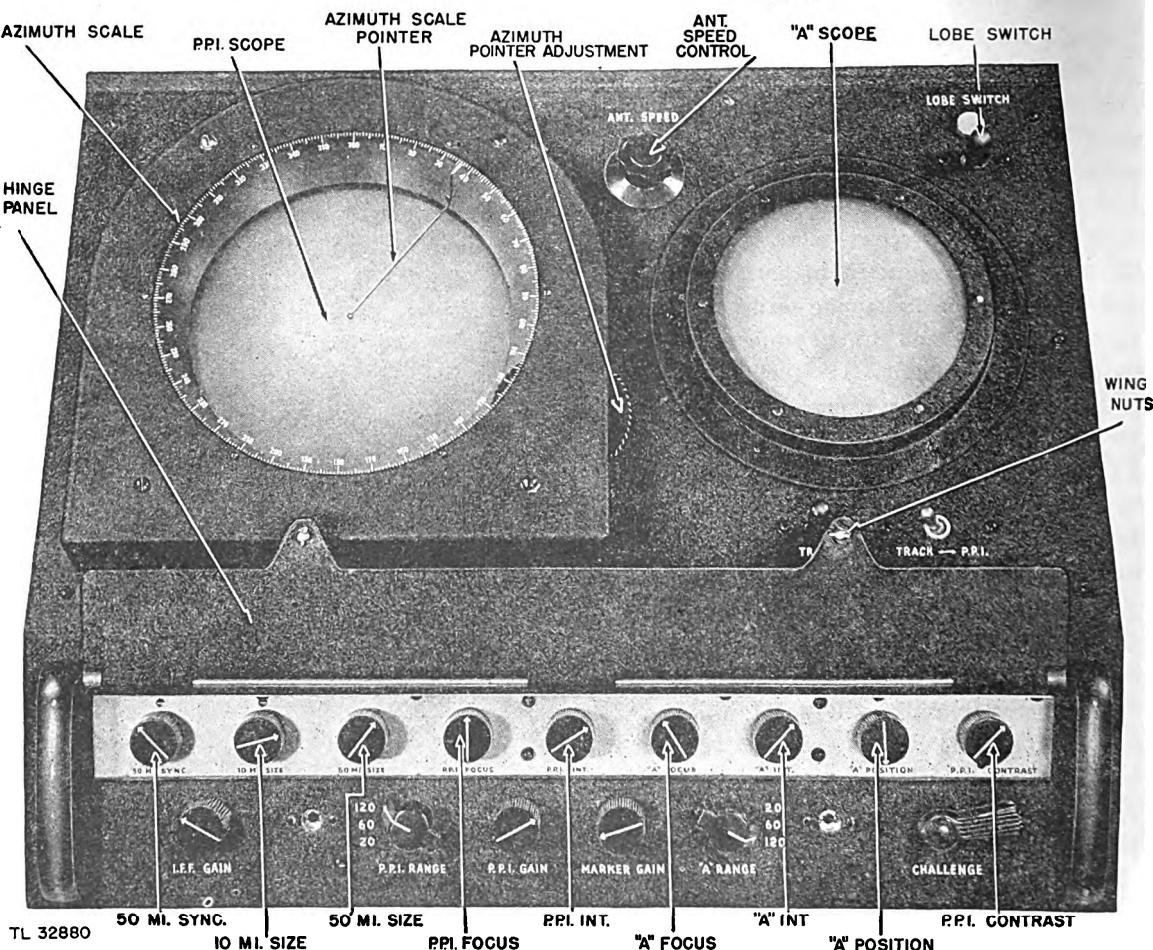

Figure 29. Indicator chassis, panel open.
**21. FUNCTION.** Radio Set AN/TPS-3 employs two indicating devices, an "A" scope, and a PPI scope (fig. 29). These cathode-ray tubes are used to indicate visually the range and azimuth of targets within 100 miles of the equipment. Although both scopes may be used to obtain range and azimuth, the "A" scope is used most effectively for range determination, while azimuth can most easily be determined on the PPI scope. The "A" scope may also be used as a monitoring or tuning device.
(a) Electron emission from the cathode is controlled by the potential difference between grid and cathode. Making the cathode of the "A" scope more or less negative by manual operation of the "A" INT. control (fig. 29), (potentiometer R58) increases or decreases the density of the electron stream with consequent increase or decrease in the intensity or brightness of the spot on the screen.
(2) FOCUSING. The beam of electrons streams through the electrostatic lens formed by the difference in potential between the grounded accelerating anode and the more negative focusing anode. The warping of the electrostatic flux lines between these two anodes, when correct, will form the electron stream into a narrow beam focused at a point on the screen. The lens curvature is controlled by the "A" FOCUS control, potentiometer R60 (fig. 29).
(1) INTENSITY. The brightness of the spot on the screen can be varied by changing the potential difference between cathode and grid by the PPI INT. control (fig. 29), potentiometer.
(2) FOCUSING. The PPI FOCUS control (fig. 29), potentiometer, varies the amount of current through the focus coil, and thus serves as a focusing adjustment. The coil is mounted in a yoke located around the neck of the tube. Changing the current through the coil varies the strength of the magnetic lines of force, thereby correcting for the lens curvature. The control should be adjusted until the electron beam is focused to a point on the screen.
(3) DEFLECTION COILS.